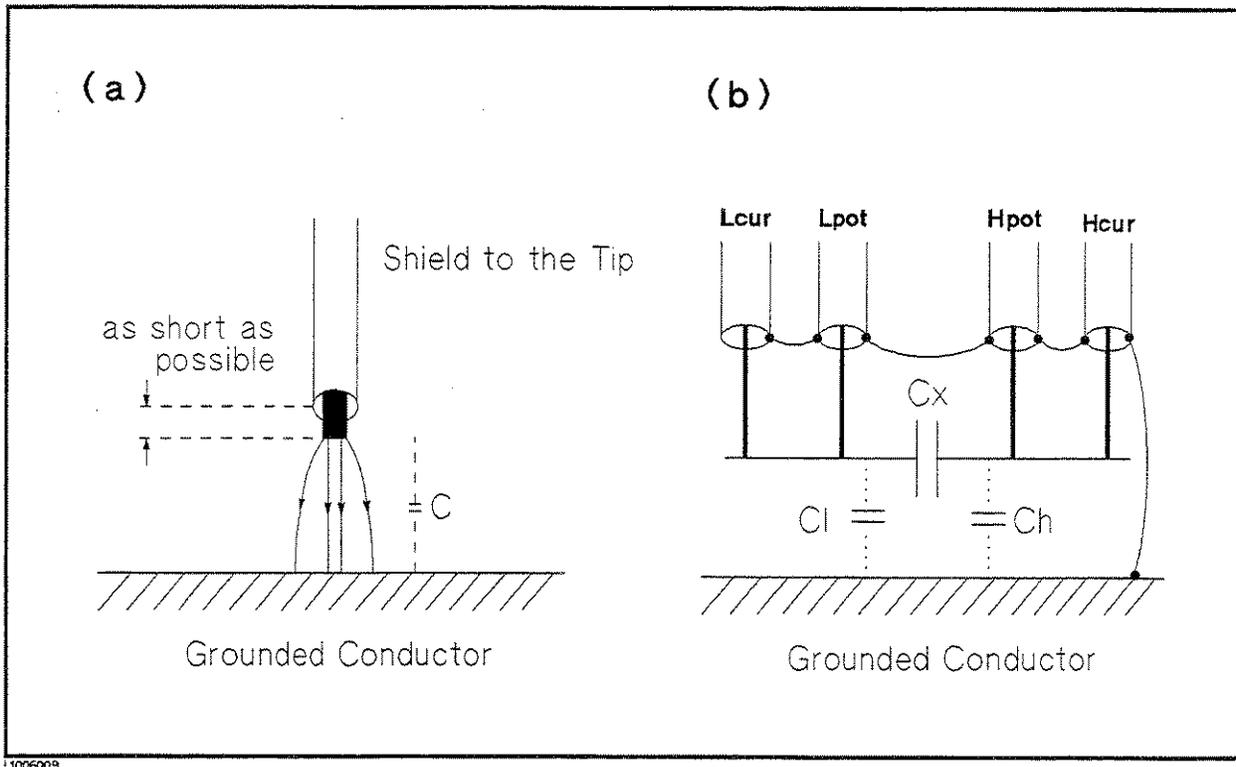

Figure 6-9. Reducing Capacitance to Ground
To minimize the stray capacitance of the test leads, the center conductor of the test leads should be kept as short as possible, as shown in Figure 6-9 (A). If four-terminal pair connections are close to the point where contact is made with the DUT, interconnect the shields of the measurement terminals to the conductor to reduce the influence of the stray capacitance to ground, as shown in Figure 6-9 (B).